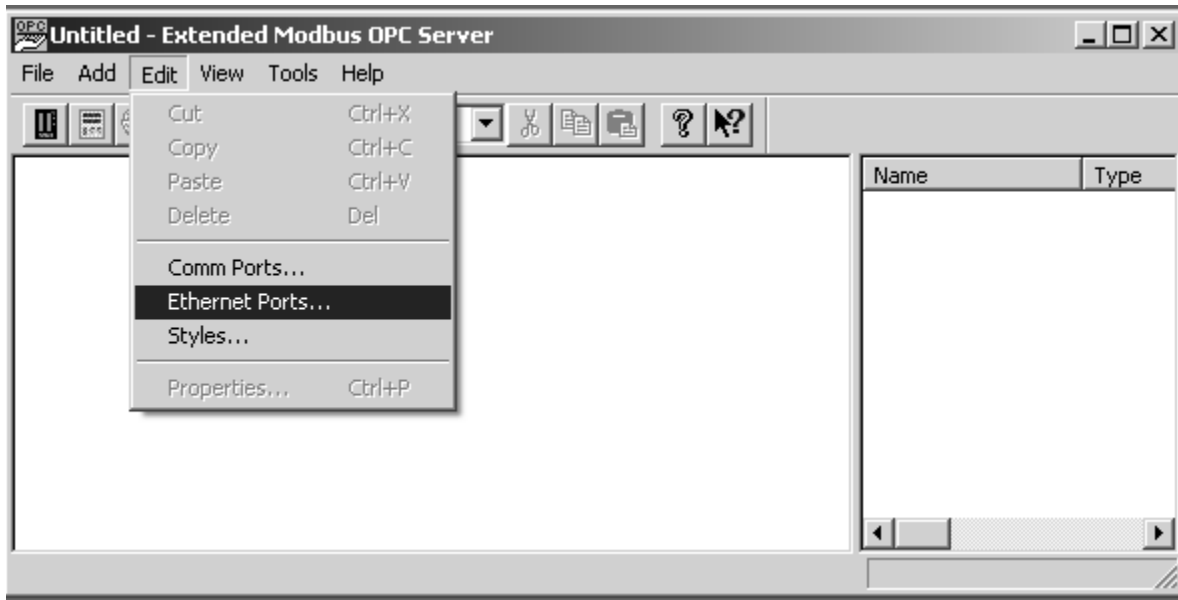

Figure 4-1. Ethernet Ports menu option
2. Click the Edit menu on the menu bar. A menu is displayed.(Figure 4-1